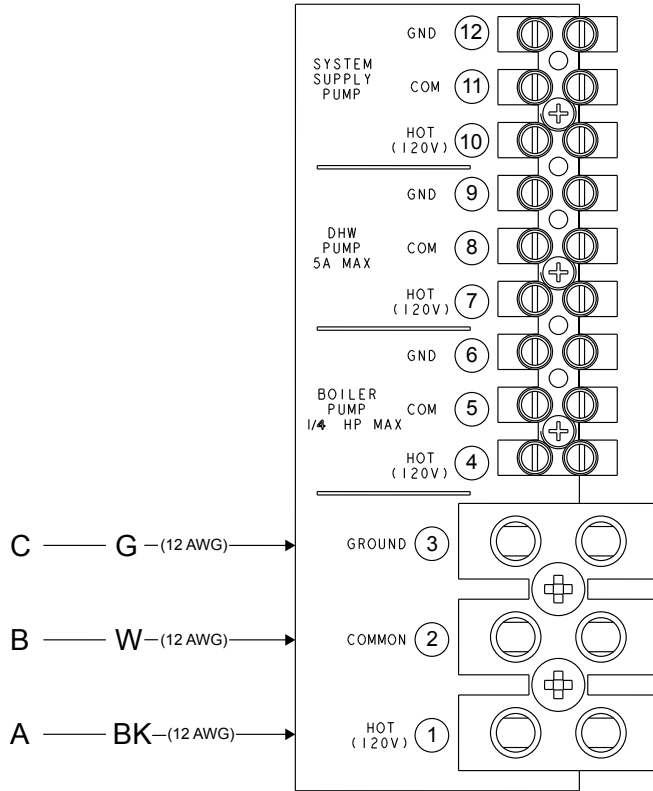
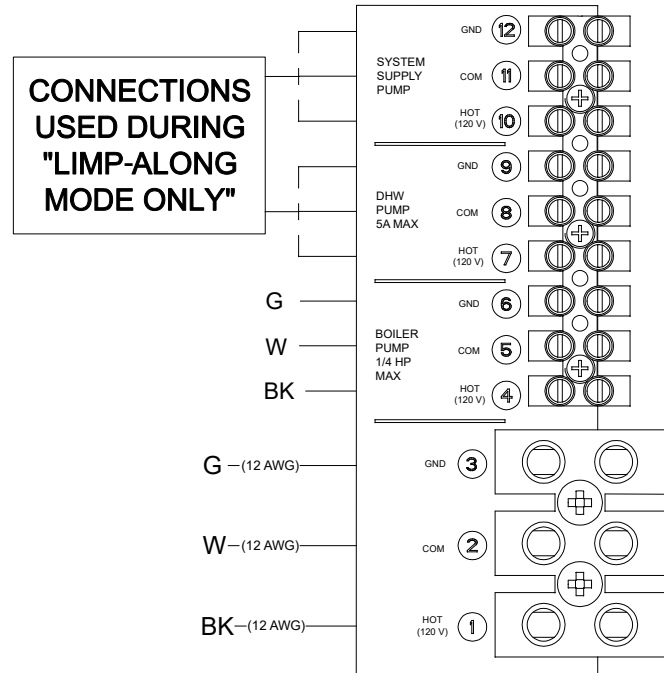

Figure 18. Wiring Connections
Figure 23. VERSA Follower
All 120 VAC field wiring connections to the XPak FT are made inside the rear wiring box. See Figure 18 on page 23. Low-voltage wiring is connected to the VERSA control board and the Platform Ignition Module (PIM) at the front of the unit. Sensors, enable/disable contacts, (optional) 0-10 VDC control wiring, and cascade connections are wired into the VERSA and PIM field wiring plugs. See the wiring diagram, Figure 46 on page 45.
WARNING: Using a multi-meter, check the following voltages at the circuit breaker panel prior to connecting any equipment. Make sure proper polarity is followed and house ground is proven. See Figure 18.
Refer to Figure 18 through Figure 23.
1. Once the primary boiler has been identified, additional boilers will be designated as follower boilers. Ensure DIP switch 2 on each follower VERSA is set to the OFF/Down position. See Figure 23.